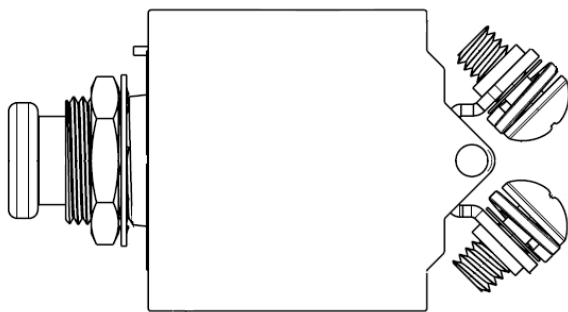

Figure 2. Circuit Breaker Closed / Not Tripped
19. ARC FAULT CIRCUIT BREAKERS. Arc Fault Circuit Breakers (AFCB) incorporate the functionality of conventional thermal circuit breakers with that of arc sensing capability. AFCBs can trip/open for either thermal or arc events. The AFCB identifies the fault mode by the use of a separate sleeve incorporated in the circuit breaker push button. With a circuit breaker tripped, if the yellow sleeve is exposed then an arc event was sensed. If the conventional white sleeve is exposed, then a thermal event occurred (Figures 2, 3, and 4).